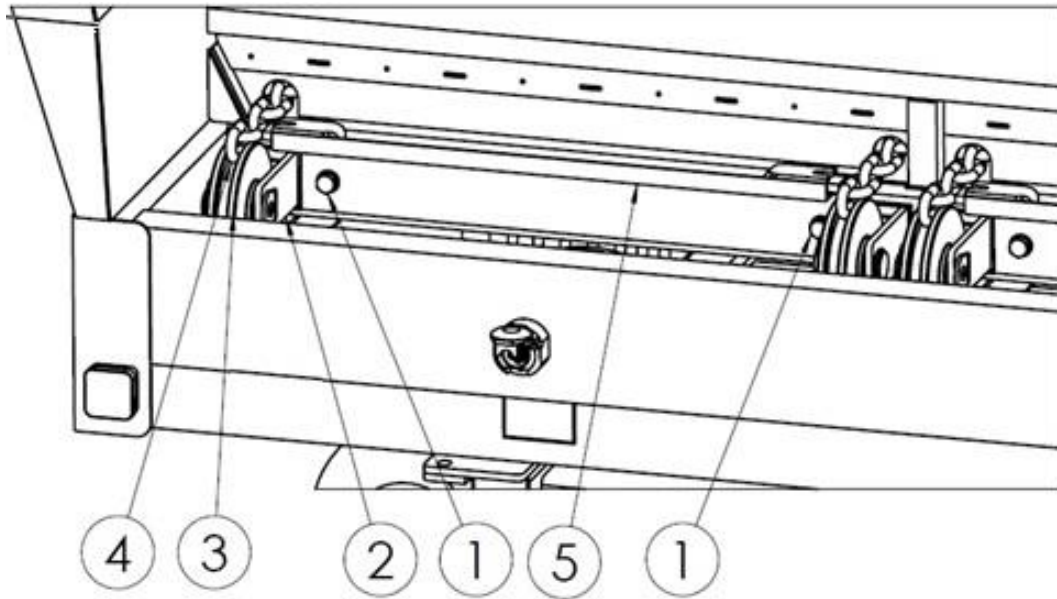

Figure 26. Tensioning the chains of the floor conveyor:
Check the tensioning of the floor conveyor chains during operation daily, especially during the initial period of operation. Carry out the tensioning of the conveyor chains by adjusting screws at the front of the spreader body - Figure 26. To increase chain tension, tighten the adjusting screws (1) so that the tensioner slider (2) and the pulley (3) move forward. Follow the tensioning procedure for both pairs of chains (4), ensuring that their tension is equal